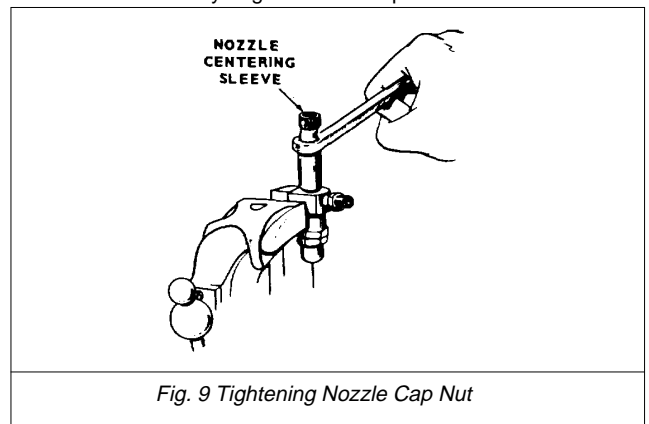

Fig. 9 Tightening Nozzle Cap Nut
- (4) Install the nozzle cap nut loosely.
- (5) Place the centering sleeve over the nozzle (Fig. 9) for initial tightening. Then re-move the centering sleeve to prevent it from binding between nozzle and cap nut and tighten the nozzle cap nut to specified torque.